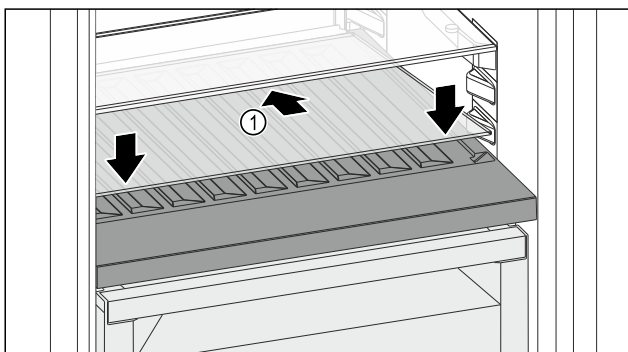

Fig. 167
- Place the glass shelf Fig. 167 (1) at an angle, sloping it downwards and backwards.
- Lower the glass shelf Fig. 167 (1) at the front.